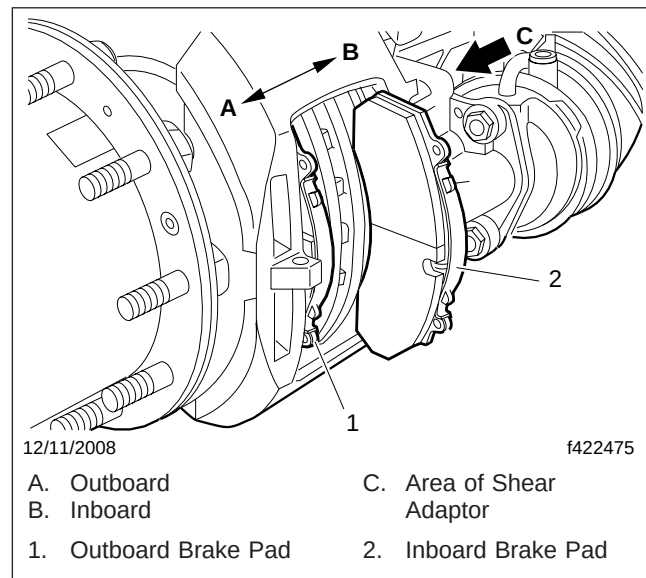

Fig. 5, Brake Pad Removal
9. Slide the caliper to the outboard position. Remove the outer pad. See Fig. 5.